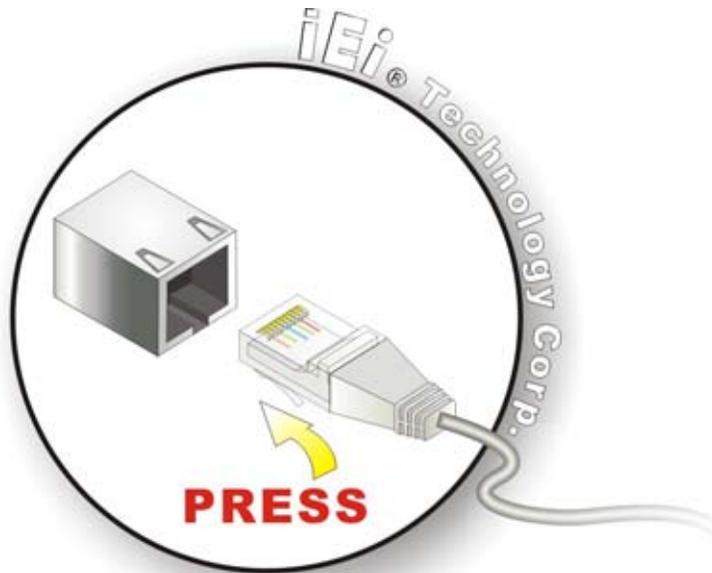

Figure 4-15: LAN Connection
Step 2: Align the connectors. Align the RJ-45 connector on the LAN cable with one of the RJ-45 connectors on the PCISA-945GSE. See Figure 4-15.